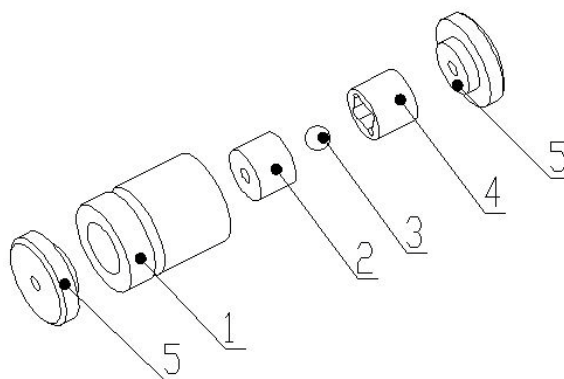

Figure 4-2: Assembly of the check valve
- 4) Assemble the cleaned check valve referring to figure 4-2. Roughness of different sides of the valve seat is not the same I Identify them carefully before installation (the gem ball seats the smooth side).